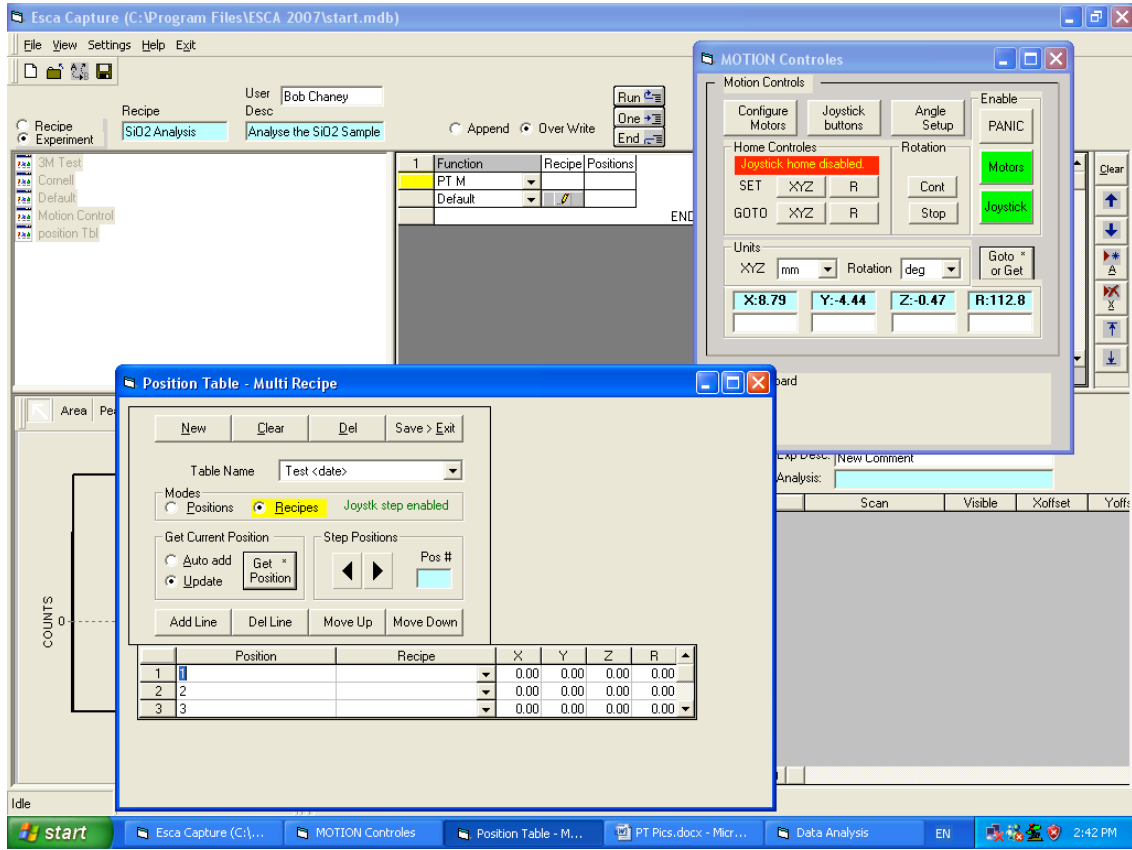

Figure 9. Add one row for each sample location to be analyzed.
- 2.6 Add the required number of rows (one per sample location) to the dialog and click on the position 1 row (Fig. 9).